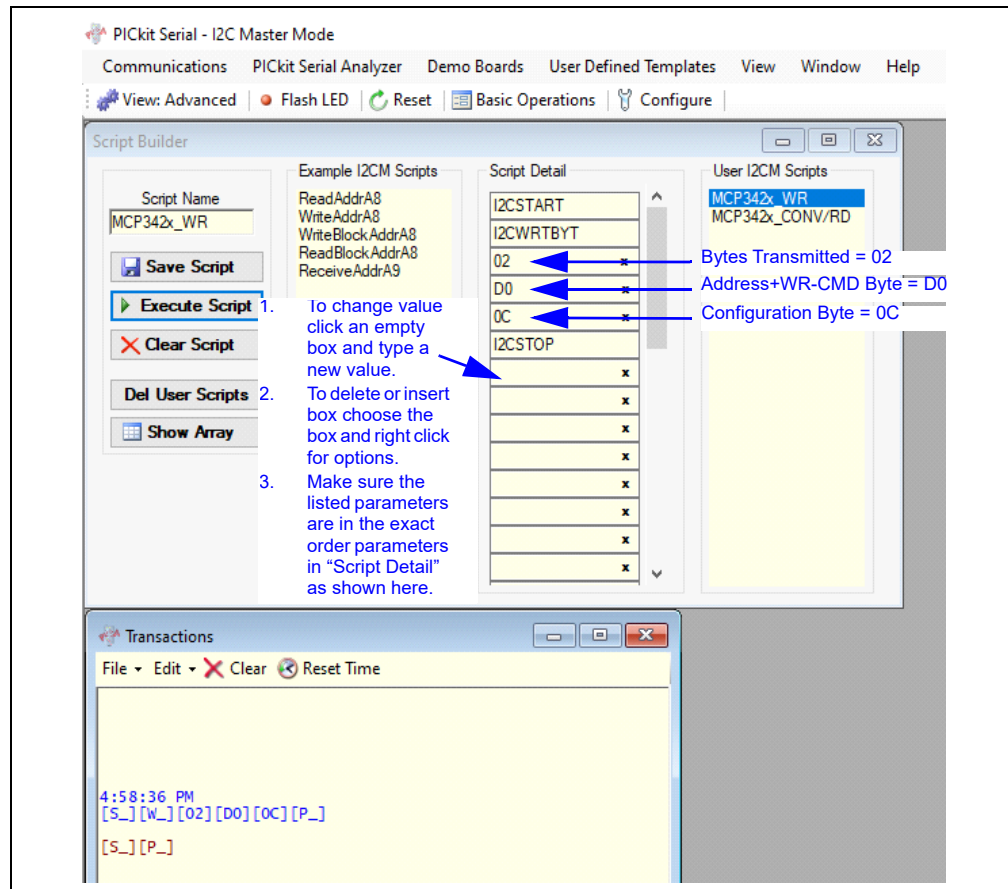

FIGURE 2-9: PICkit™ Serial I²C Write Command.
7. Change the fourth and fifth parameter values in the “Script Detail” column per the desired device operation (see Figure 2-9).